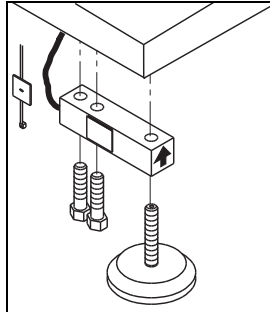

Figure 4-1. Load Cell Assembly
6. Position load cells with alignment arrows point up toward the deck and loosely install the hex head cap screws provided, as shown in Figure 4-1 on page 8.